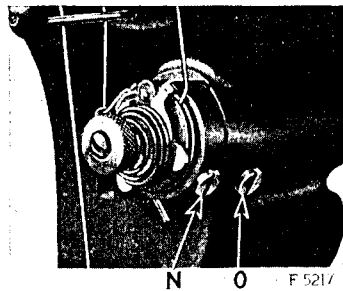

Fig. 18. Adjustments of Thread Controller on Machines of Class 47w
For more controller action on the thread, loosen the stop screw (N, Fig. 18) at the right of the tension and set the stop lower, and for less action, set the stop higher.
To strengthen the action of the controller spring on the thread, loosen the tension stud screw (O, Fig. 18) at the right of the stop screw and turn the tension stud slightly to the left with a screwdriver, or to lighten its action on the thread, turn the tension stud to the right and tighten the tension stud screw (O).